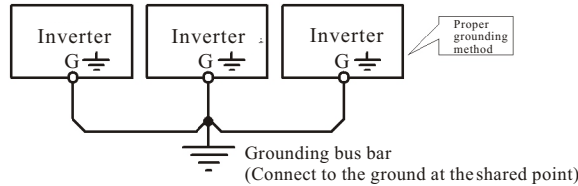

Figure 1-1
- The ground terminal must be reliably and properly grounded to ensure security. To avoid common ground impedance, multi-piece inverters should be grounded with one shared point, as shown in the Figure 1-1.